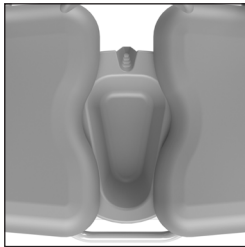

Figure 27. Lopital plastic bedpan.
- The position of the plastic bedpan or bucket in the guide can be determined by the user (See figures 27 to 29).